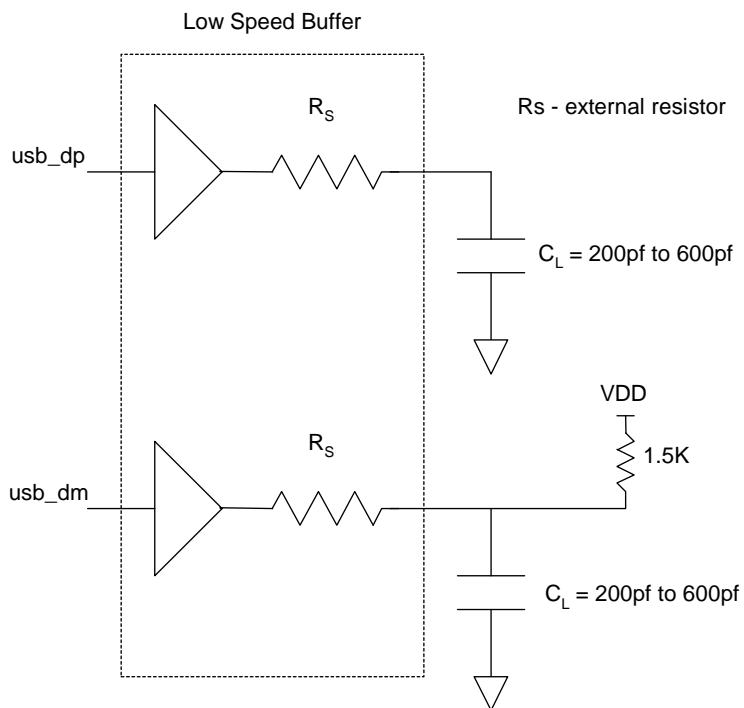

Figure 142: USB internal PHY low speed load
- 4 Load shown in Figure 142, "USB internal PHY low speed load," on page 779.